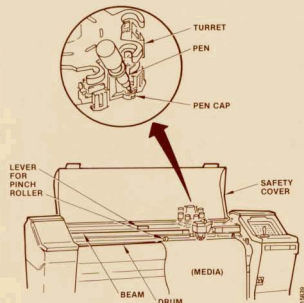
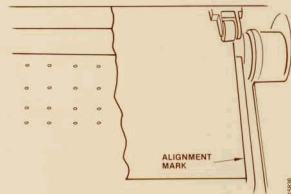

Figure 2. Pens, Turret and Media
Figure 3. Media Alignment
1. Remove the pen turret from the plotter and insert the desired pens. Don't forget to remove the protective cap from the pen. The easiest way to load a pen is to insert the tip into the small rubber cap designed to keep the pen tip from drying out, push down gently, and rotate the pen body into the holder (Figure 2). Place the turret back on the plotter; turn the turret halfway around, and it will drop into place.
2. Insert a sheet of paper between the pinch rollers and the drum (Figure 2). Align the right edge of the paper with the alignment mark on the platen (Figure 3).